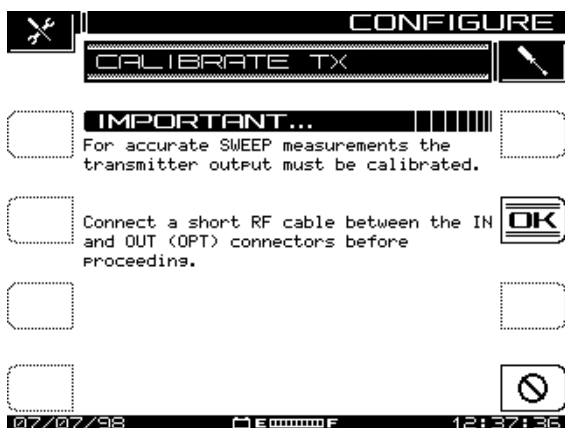

Fig. 2-12 Calibrating Transmitter Output
- **Calibrate Transmitter:** To calibrate transmitter output, press the **Enter** key. You'll see the screen shown in Fig. 2-12. You will be asked to shunt or jumper with coax the input (IN) and output (OPT) terminals of the meter with a short length of cable. When you're done, press the **OK** soft key.